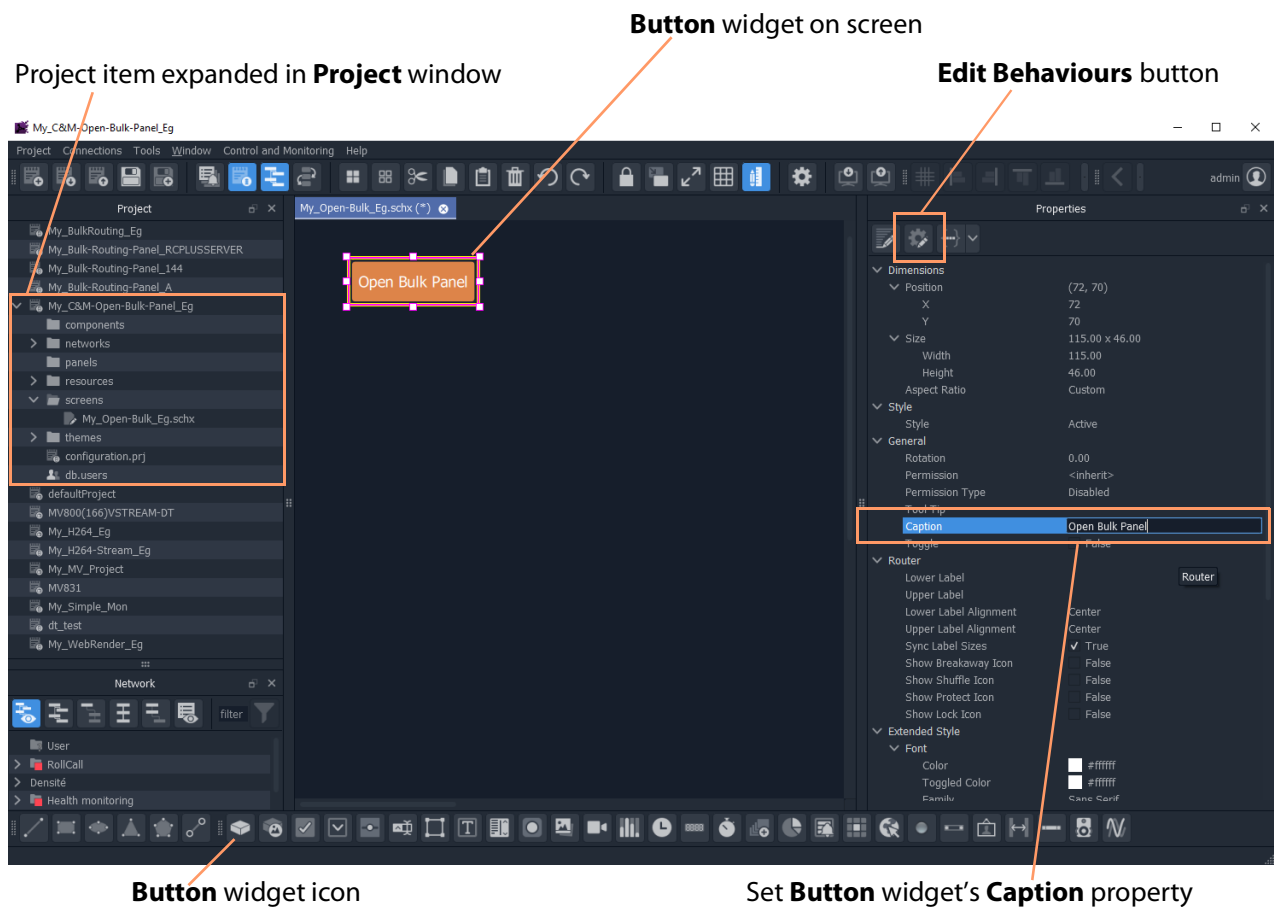

Fig. 5-91: C&M Project Screen with Button Widget
- 5 Edit the **Button** widget's **Caption** property. See Figure 5-91.